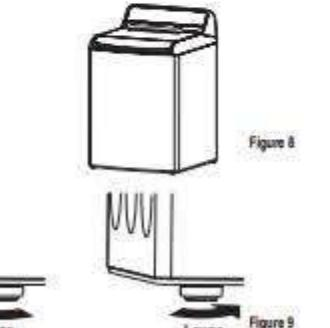

Figure 8
1. Position the washer in its final location, taking special care not to pinch, strain, or crush the water and drain lines. Place a level across the top of the washer. (Figure 8)